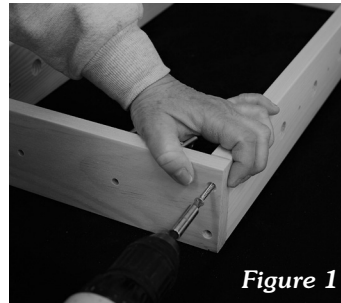

Figure 1
Step 1 - Screw Cross Brace to Side Rail. (See Fig. 1) The Sievers Benchwork stamp will face the inside of the section. **NOTE:** A blue pencil line indicates the top edge of each piece.